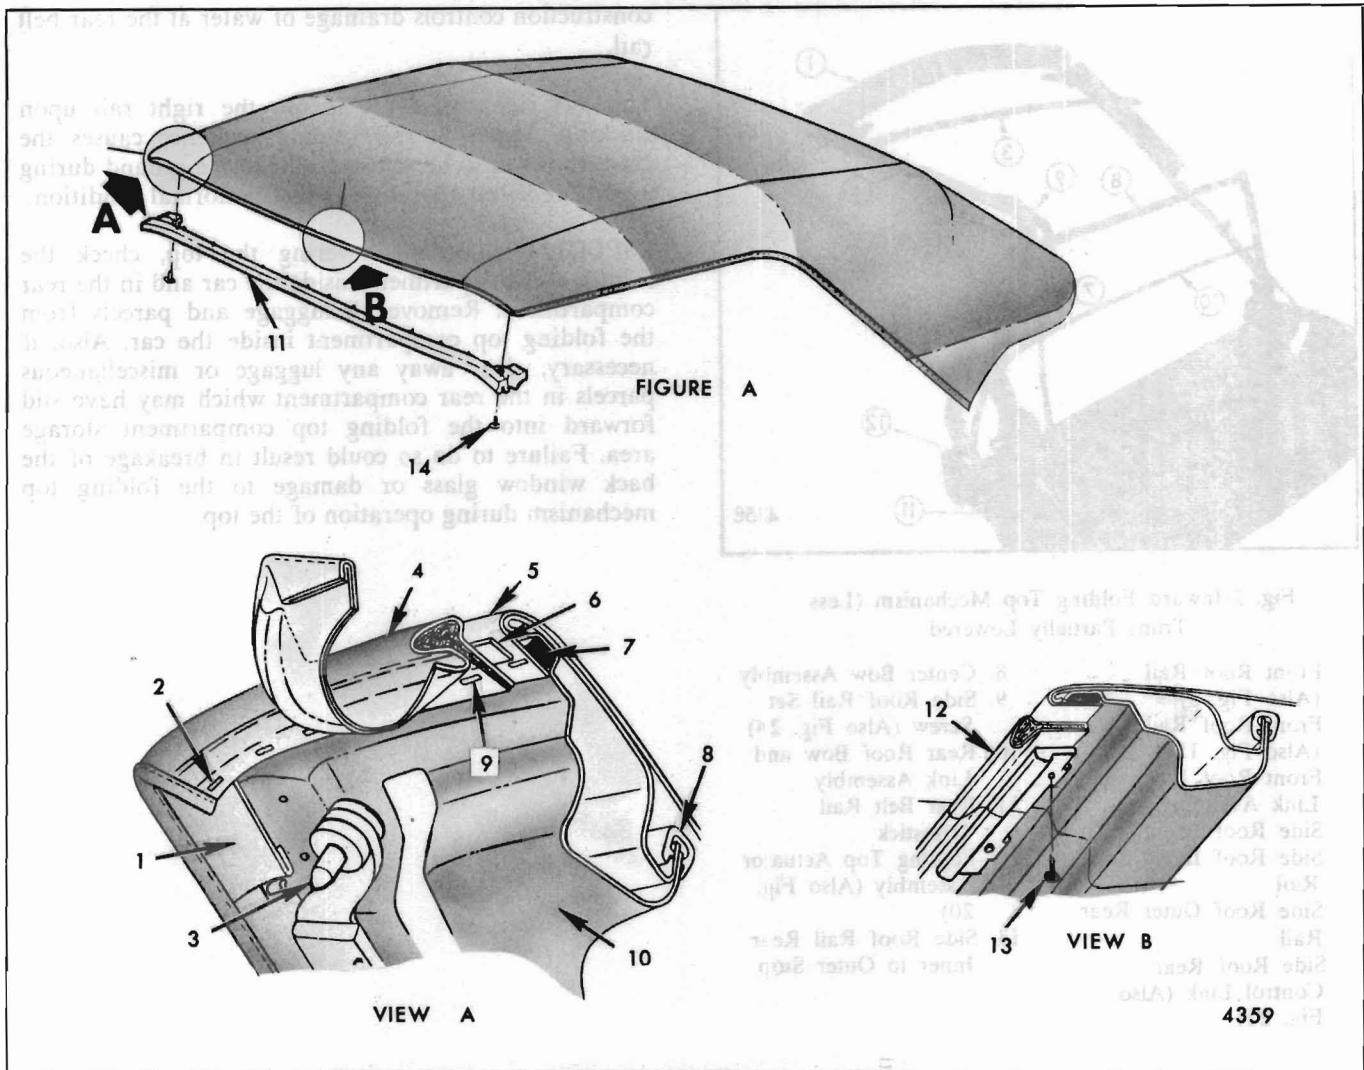

Fig. 3-Front Roof Rail Parts Attachment
(Also Fig. 3) | 6. Side Roof Outer Rear
(Also Fig. 3) | 8. Center Bow Assembly |
2. With top lowered, detach top cover at front roof rail as follows (Fig. 3):